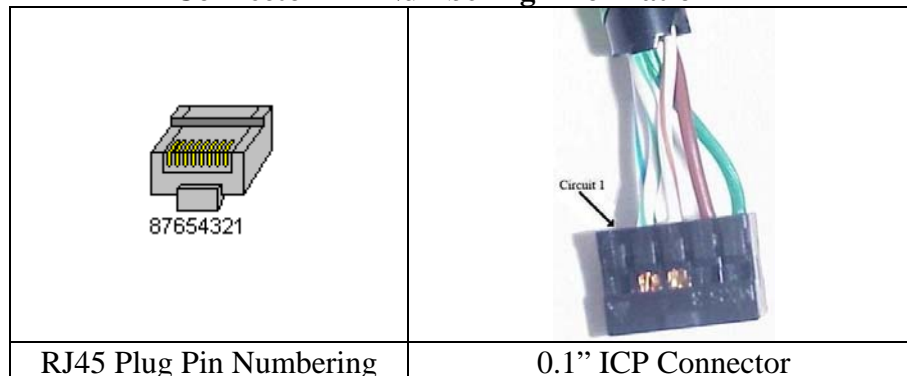

Figure 1
6. Affix label with cable part number. See Figure 1 for correct label position.